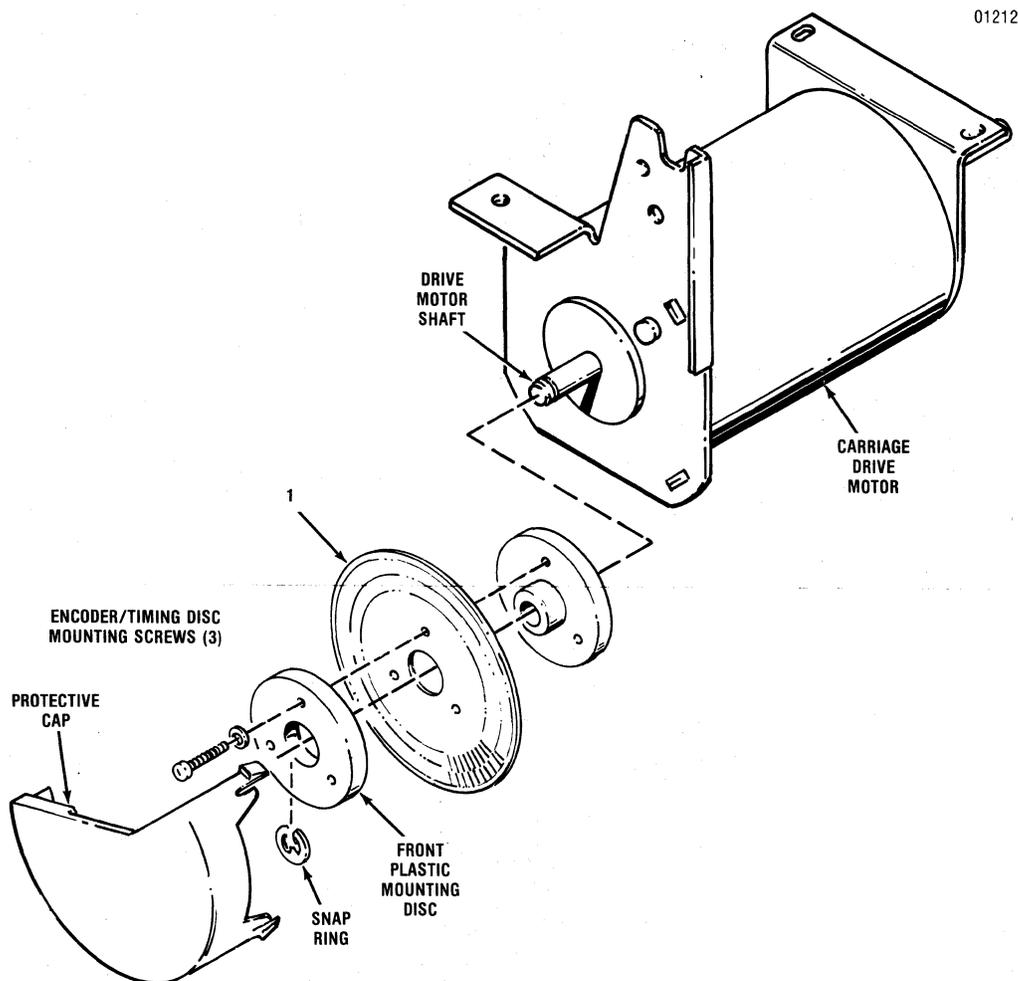

Figure 5-11. REMOVAL/REPLACEMENT, ENCODER/TIMING DISC
The encoder/timing disc, item 1 of Figure 5-11, is located on the end of the carriage drive motor shaft and is removed using a Phillips head screwdriver. To remove the timing disc, refer to Figure 5-11 and perform the following steps: